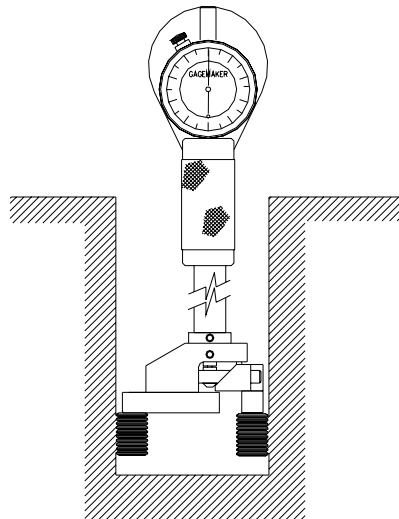

Fig. 2 Inspecting the thread
5. Insert the assembled gage between the ears of the gage block stack as shown in Fig. 2. Sweep the gage to locate the smallest indicator reading. Zero and lock the indicator bezel.